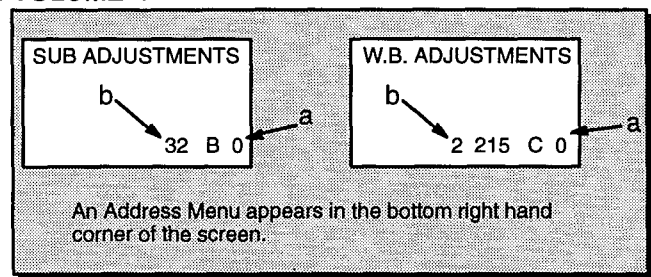

Figure 11. Serviceman Mode Menu Adjustments
**Note:** Only the applicable settings for the Receiver serviced will be available (see a in Figure 11).
1. Press **Channel Up/Down** on the Remote Control to select one of the 8 available Service Adjustments (a in Figure 11).
**Important Note:** Write down the original value set (b in Figure 11) for each address before modifying anything. It is easy to erroneously adjust the wrong item.
2. Press **Volume Up/Down** on the Remote Control to adjust the level of the selected Service Adjustment (b in Figure 11).
1. Press **Channel Up/Down** on the Remote Control to select one of the 12 available Service Adjustments (a in Figure 11).
**Important Note:** Write down the original value set (b in Figure 11) for each address adjustment before modifying anything. It is easy to erroneously adjust the wrong item.
1. Press **Channel Up/Down** on the Remote Control to select one of the 12 available Options Adjustments (a in Figure 11).
1. Press **Channel Up/Down** on the Remote Control to select one of the 5 available MTS Adjustments (a in Figure 11).
***Important Note:** Write down the original value set (b in Figure 11) for each address before modifying anything. It is easy to erroneously adjust the wrong item.*